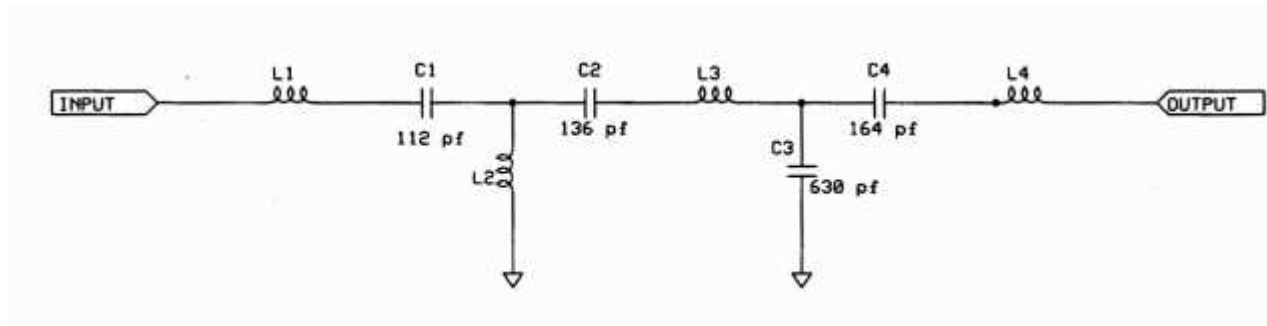

Figure 3: Typical Ugly Filter schematic
All of the filters use the same filter prototype circuit. See figure 3. This circuit was chosen for several reasons. First, the values of inductance are reasonable to realize in solenoid coils with acceptable Q's. To maintain a more symmetrical stop band response in some of the filters both coupling coils and coupling capacitors are used. The coupling elements are the shunt elements between the series resonators. The type of coupling element, capacitor or inductor, shape the stop band response because of the reactance of the coupling element at zero and infinite frequency. The filter loaded Q was kept as low as possible to keep the pass band losses low while providing the desired stop band attenuation. This was accomplished by making the filter pass band as wide as possible and still achieve the desired stop band attenuation at the adjoining contest ham band. This also adds to the uniformity of response in the desired pass band. The resulting design is also more tolerant of variation in component values. In the case of the 80/75-meter filter, due to the wide percentage bandwidth it was necessary to go to four (4) poles. All of the other bands use three (3) pole filters. For this reason and because the coils required are large in inductance, the 80 meter filter is built in a double sized enclosure made by joining two (2) PC power supply cases. Likewise the 160-meter filter requires even larger inductance coils. For this reason it is built into three PC supply cases. The filter for 160 meters also uses a toroidal core coil for one of the coupling elements. In the end it was the simplest way to fit it all in the enclosure.